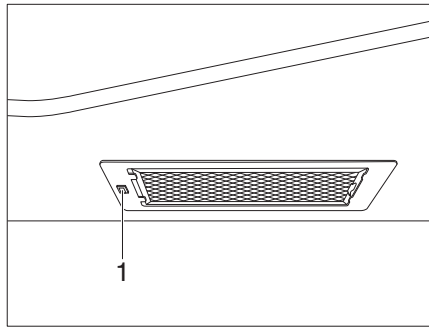

Fig. 313 Extractor hood
- Use the switch (Fig. 313,1) to turn the extractor hood on and off.